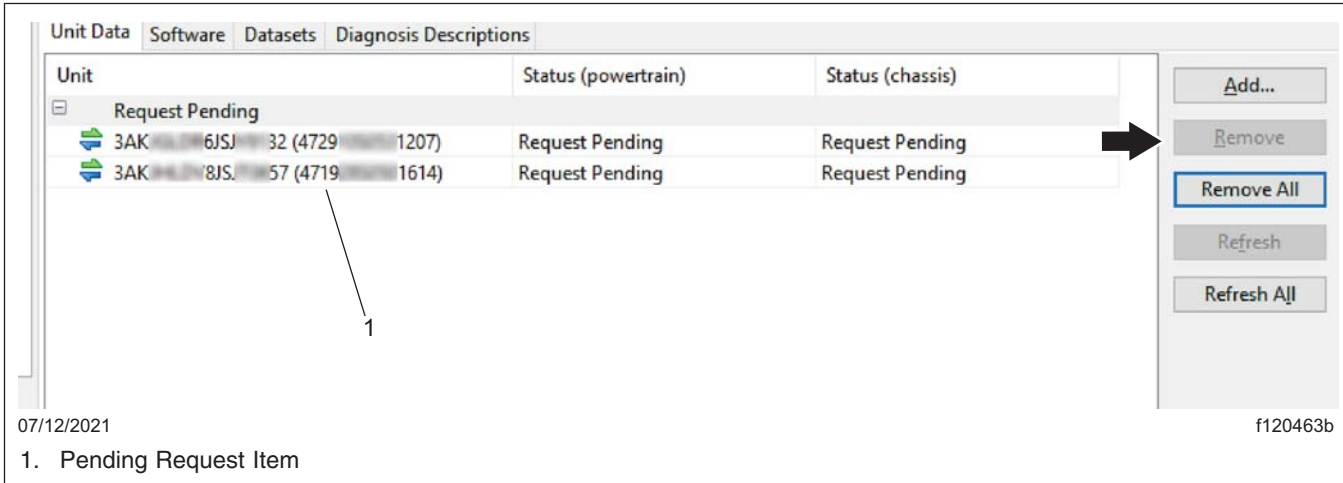

Fig. 14, Removing Old Pending Requests
11. If there are any items in the 'Request Pending' section, they must be removed. To remove them, select each 'Request Pending' list item, and then select 'Remove.' See Fig. 14.